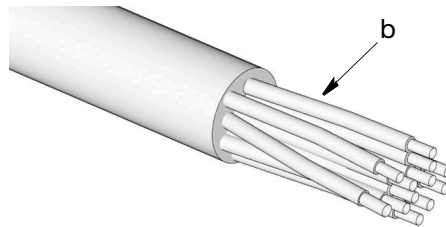

FIG. 2
3. Strip each wire (b) as shown in FIG. 2.